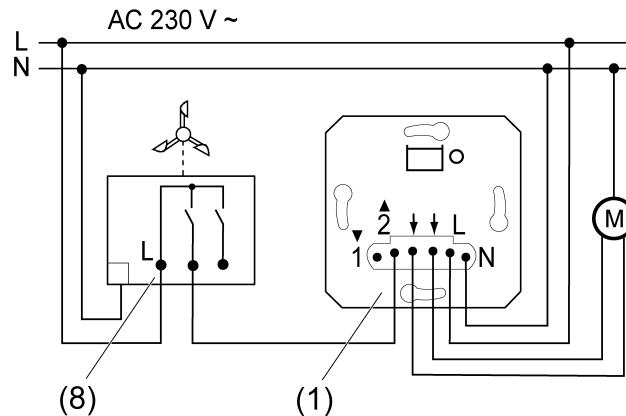

Figure 6: Connection example of wind sensor
- Connect the wind sensor (8) according to the connection example (Figure 6). The wind alarm is implemented via extension input 2.